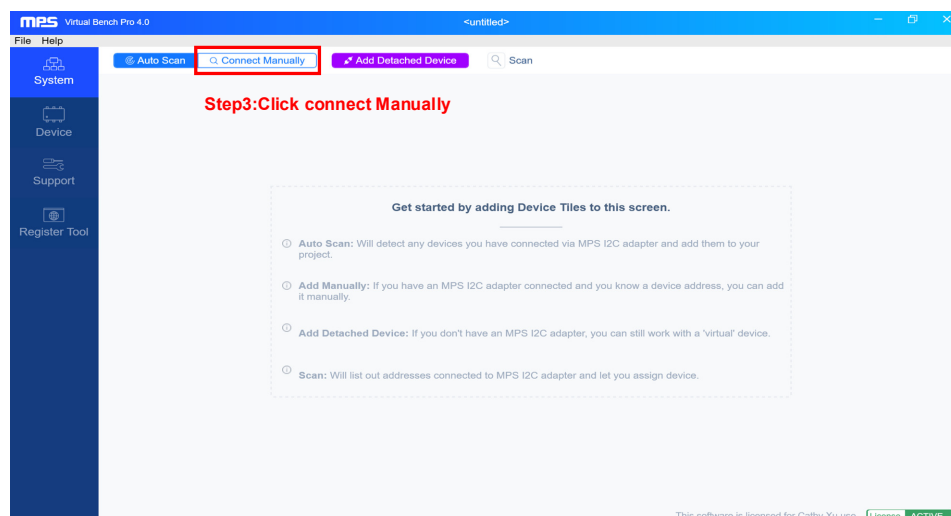

Figure 5: Creating a New Project in Virtual Bench Pro 4.0, Step 3
d. Manually connect to Virtual Bench 4.0 (see Figure 5).